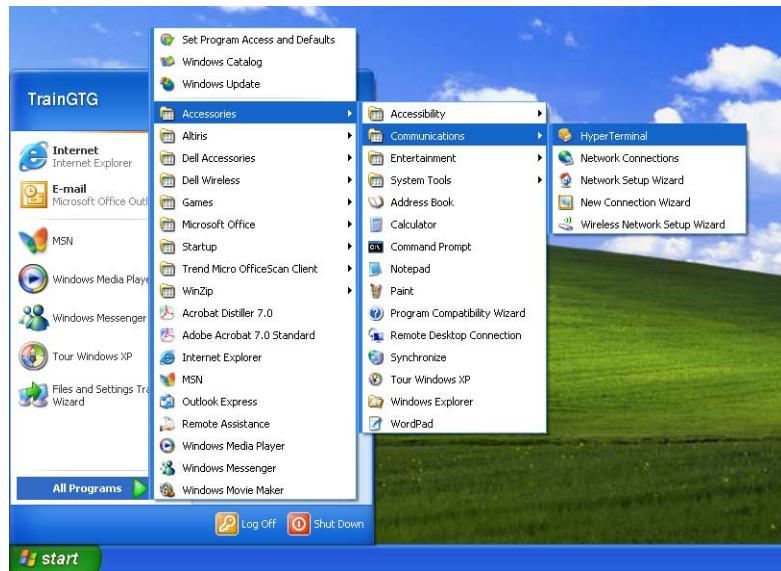

Figure 115: Selecting the HyperTerminal function
4. Start the external computer and select “HyperTerminal” as shown in Figure 115 or alternatively start “hyperterm.exe”.